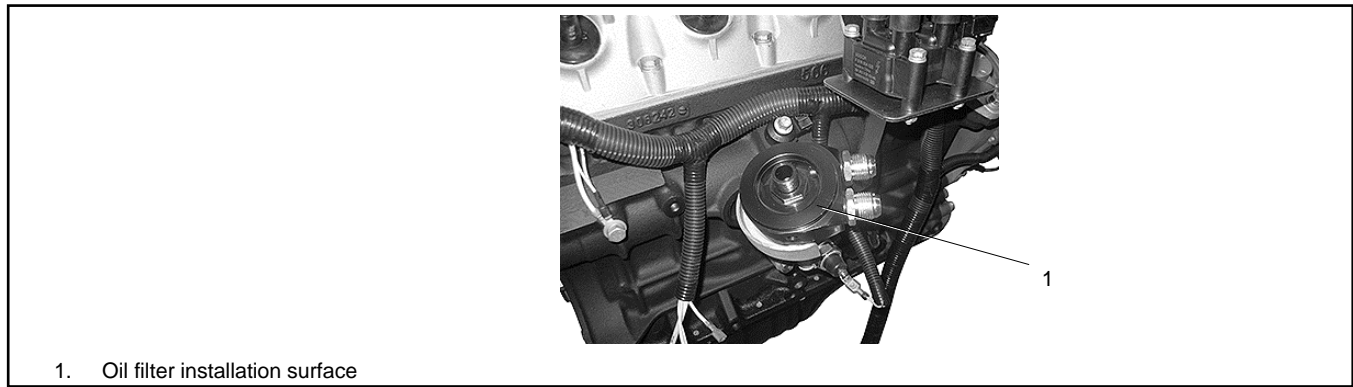

Figure 22 Oil Filter Installation Location
5. Wipe the oil filter installation surface clean with a dry cloth. Inspect the installation surface for damage. See Figure 22.
7. Lightly screw in the new oil filter by hand until you feel resistance. Using the oil filter wrench, tighten the filter an additional 3/4 turn. See Figure 22.